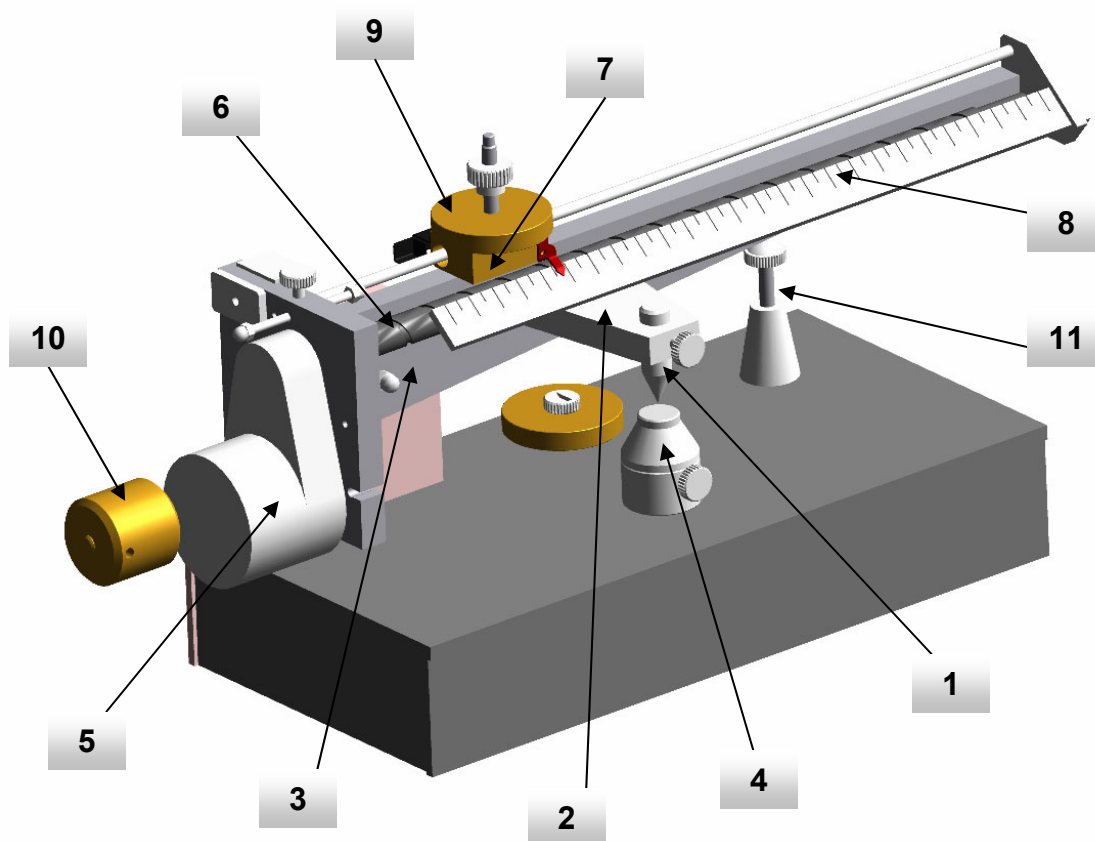

Figure 1, "Front View"
The pusher (1), see figure 1 & 2, is mounted on a bracket (2) fixed to an arm (3), which pivots on a fulcrum.